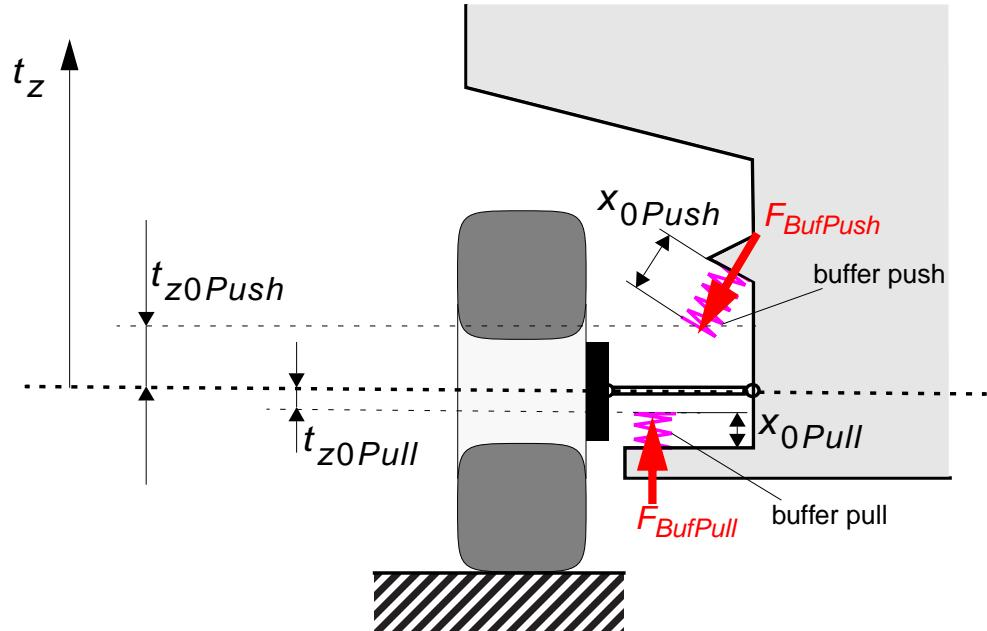

Figure 5.122: Buffer elements at the left wheel
- Length tz0 (m)** This length is the wheel travel in the vertical direction from which the buffer is activated ( $z$  axis of the frame  $Fr1$ ), calculated from the position in the static equilibrium configuration (see Figure 5.122: Buffer elements at the left wheel).